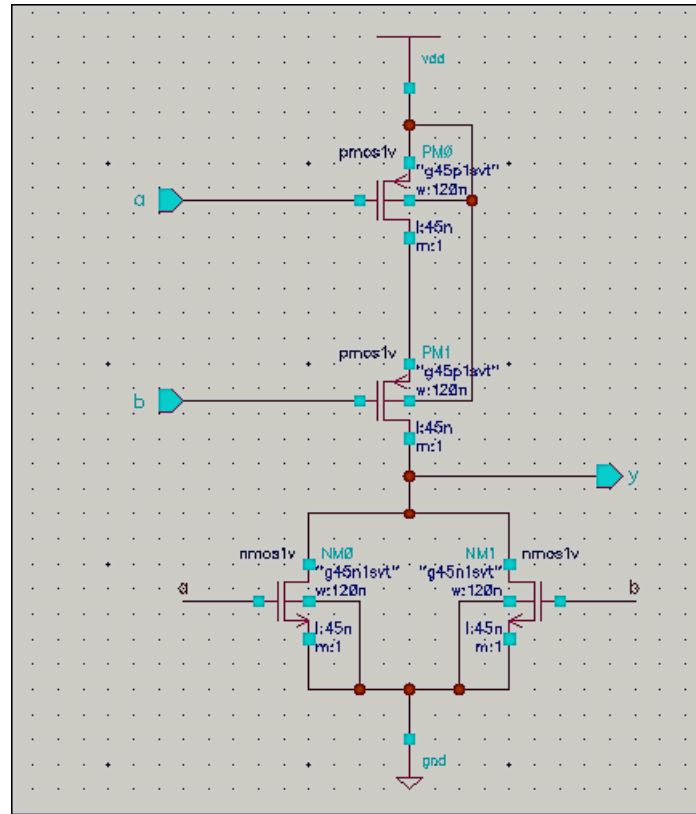

Figure 1.9: 2 input NOR gate Schematic
3. Now follow the same procedure that was followed for building the inverter to build the Nor gate. When finished, your schematic should resemble Fig.1.9.